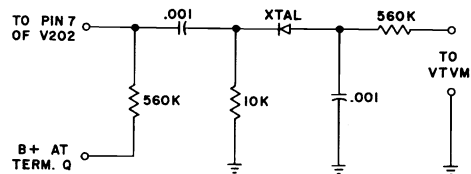

Figure 12—Sound Diode Detector
- VACUUM TUBE VOLTMETER** Connect to output of diode detector shown in Figure 12. Set meter for negative voltage readings.
- MISCELLANEOUS** Connect test diode detector, see Figure 12, to pin 7 of V202. Refer to Figure 31 for adjustment locations.